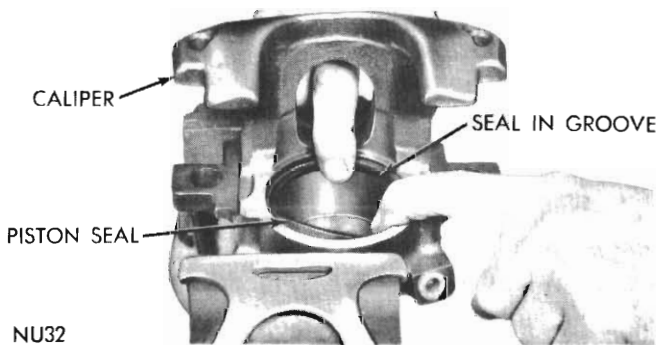
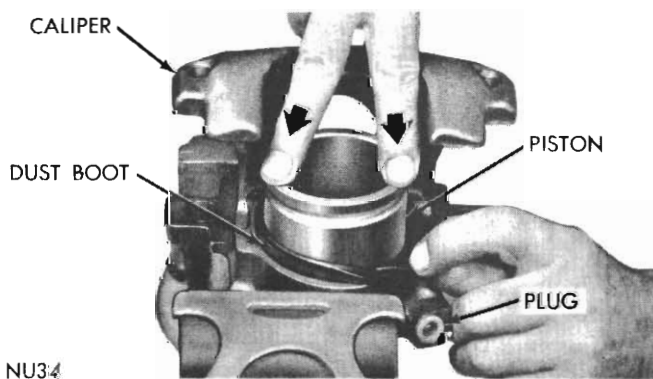

Figure 12 - Installing piston seal
Figure 14 - Installing piston (Through boot)
- (1) Lubricate cylinder bore with the Chrysler Heavy Duty Brake Fluid and carefully install new sealing ring into the groove in the bore, ensuring the seal is not twisted and is fully seated in the groove. (*Refer Fig. 12*).
- (2) Install new rubber boot into the outer groove of the caliper bore, ensuring flange of the boot is squarely and firmly seated in the groove.
- (3) Lubricate the outside diameter of the piston with the Brake Fluid and install in the cylinder bore with the open end of the piston and boot retaining groove facing outward. (*Refer Fig. 14*).
- (4) Spread the boot over the piston as the piston is installed, taking care not to disturb the boot in the caliper groove. (*Refer Fig. 14*).
- (5) Apply steady pressure, *by hand*, to the piston and press until the piston is fully seated in the caliper bore. Ensure outer lip of boot is located in piston groove. This operation is simplified by applying light air pressure to inlet port to extend boot lip into position.
- (6) Place the outer pad against the inside of the caliper housing legs and secure with the spring clip under the lance on the backplate and over caliper housing legs.